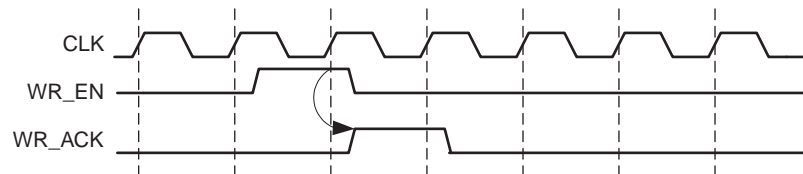

Figure 5-35: Latency 0 Timing
**Note:** Latency is defined as the number of clock edges after a read or write operation occur before the signal is updated. Example: if latency is 0, that means that the signal is updated at the clock edge in which the operation occurred, as shown in Figure 5-35 in which WR\_ACK is getting updated in which WR\_EN is high.